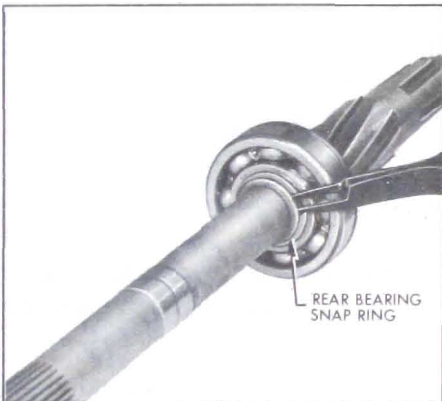

Figure 4-93—Installing Rear Bearing Snap Ring
2. Install snap ring in groove in mainshaft behind rear bearing. See Figure 4-93.